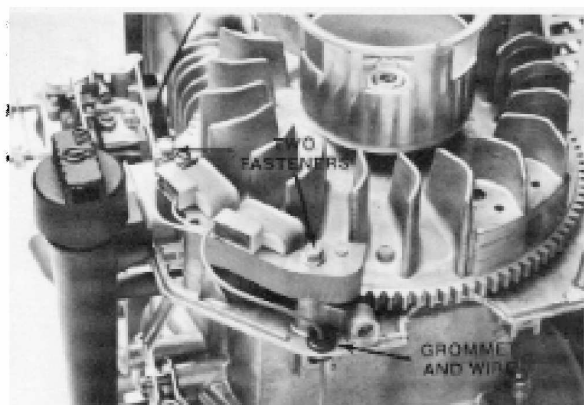

Figure 3-28
1. Install the alternator and secure with two fasteners. The screws should be tightened to 1.0 — 1.6 kg-m (7-11 ft-lbs). Route the wire and grommet through the opening in the engine block. See Fig. 3-28.